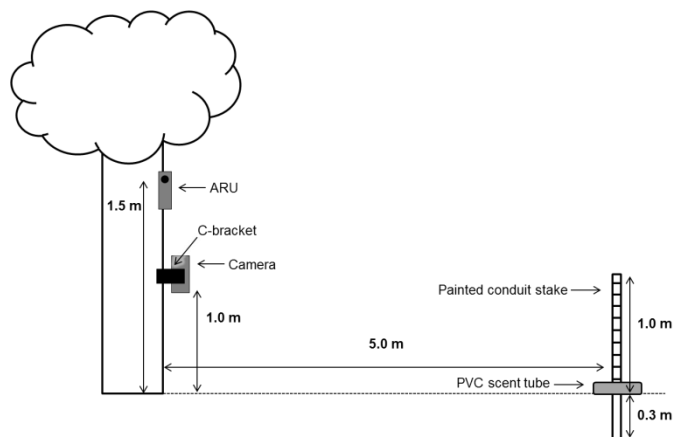

Figure 8. Camera and ARU set in a tree location. Ideally, both units should face north.
- Set at a height of 1 m (ground to bottom of the camera lens) (Figure 8) and angled to hit a point 80 cm above the ground, 5 m away from the camera lens (Figure 5)
- Set at height of 1 m (ground to bottom of the camera lens) (Figure 8) and angled to hit a point 80 cm above the ground, 5 m away from the camera lens (Figure 5)